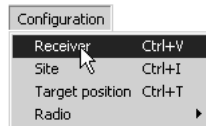

Figure 2-13. Configuration->Receiver
2. Once connected, click **Configuration->Receiver** (Figure 2-13).